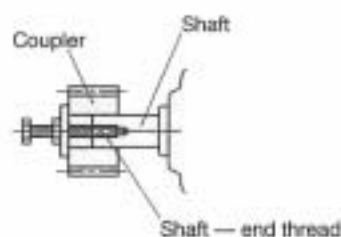

Fig. 2
- Shrink fit or shaft-end thread is recommended for mounting (Fig. 2)
(1) Use of coupling